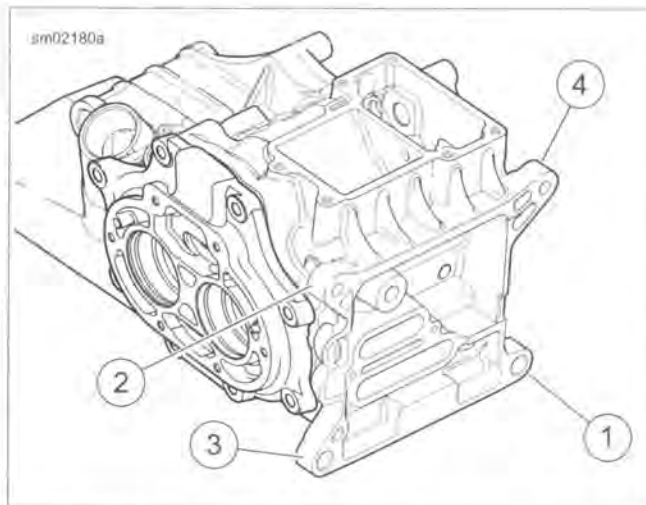

Figure 6-54. Transmission Housing to Crankcase Tightening Sequence
- b. See Figure 6-54. Tighten bolts in the sequence shown to 15 ft-lbs (20.3 Nm).